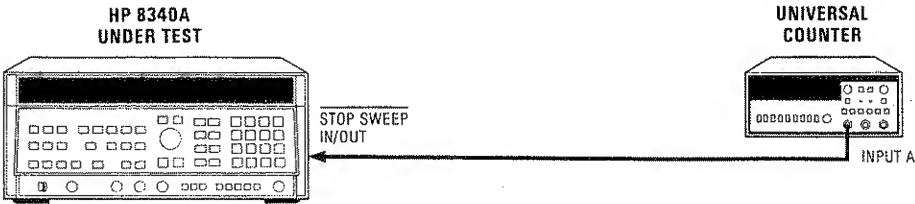

Figure 4-3. Sweep Time Accuracy Test Setup
1. Connect equipment as shown in Figure 4-3. Switch the 8340A POWER to ON. Allow the equipment to warm up for 30 minutes.